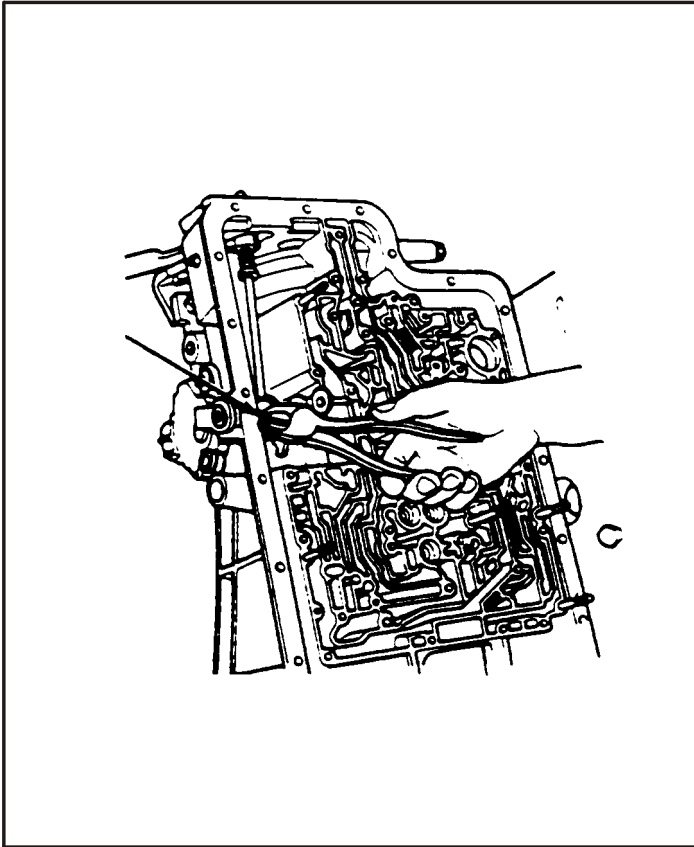

Figure 2
2. Using side cutters or suitable tool remove manual lever rollpin from the case (See Figure 2).